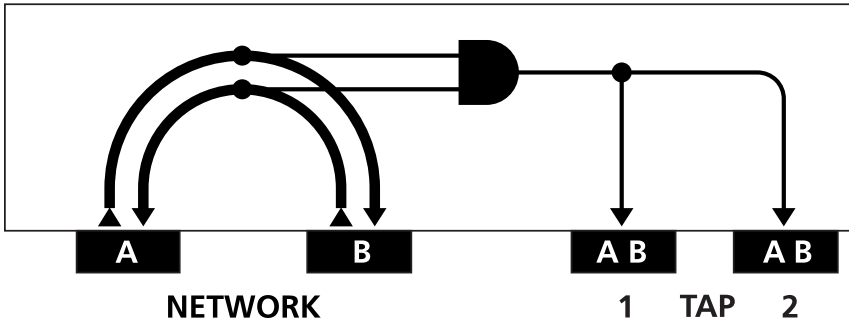

Figure 5. ATAP-100 Link Aggregating In-Line Tap connectivity diagram
**Figure 5** illustrates the ATAP-100 Link Aggregating In-Line Tap functional diagram legend, which is located on the rear panel next to the **POWER 1** and **POWER 2** connectors.